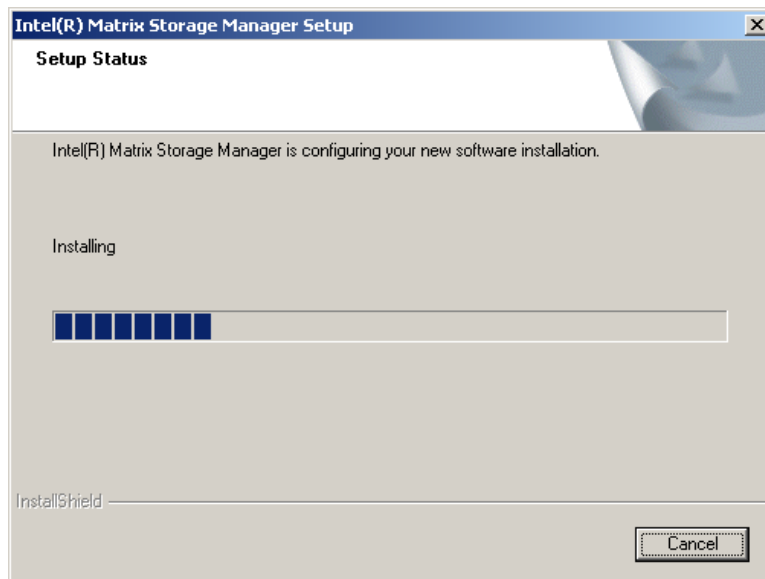

Figure 7-24: Matrix Storage Manager Setup Screen
Step 6: Figure 7-24 shows the **Matrix Storage Manager** software configuring the installation process.